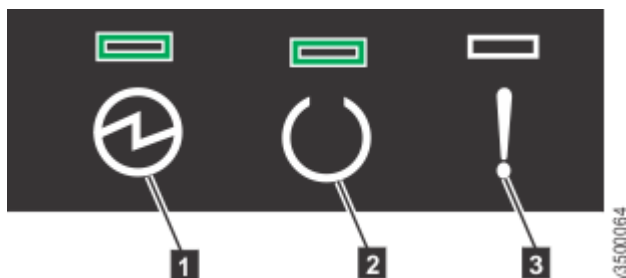

Figure 29. Expansion enclosure LEDs
2. From the rear of the rack, check the LEDs on each expansion enclosure (see Figure 29 on page 68).